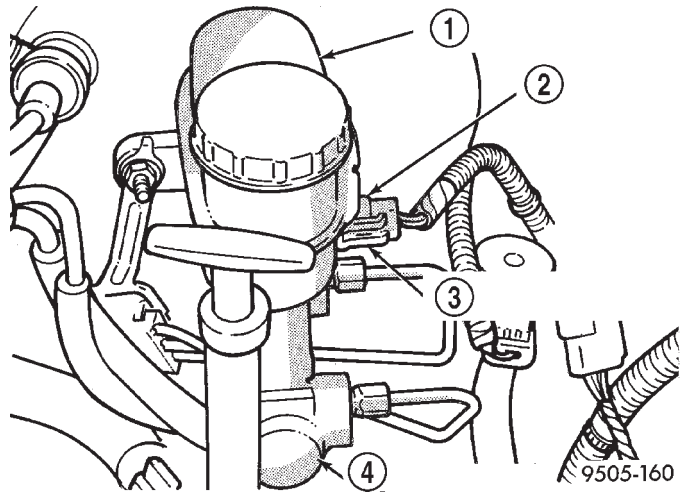

Fig. 52 Master Cylinder Fluid Level Sensor
(1) Remove wiring harness connector from brake fluid level sensor in master cylinder brake fluid reservoir (Fig. 52).
(5) Install the connector from the vehicle wiring harness on the fluid level sensor in the master cylinder fluid reservoir (Fig. 52)